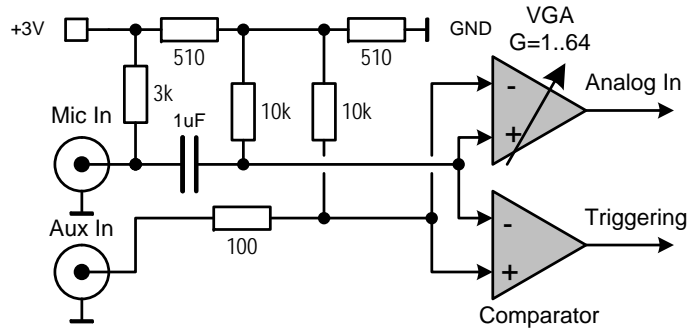

Figure 6: Internal circuit connections for Aux In and Mic In inputs, resulting in *Analog In* and *Triggering* signals used in SWF/SWL and FM/PhM modes
Signals from Aux In and Mic In inputs are fed to the variable gain amplifier (VGA) and comparator, forming accordingly *Analog In*, used as modulating signal, and Triggering – for synchronous run in Sweep Frequency and Sweep Level modes, see figure 6.
i Figure 6 shows the internal circuit connections for the Aux In and Mic In inputs
-  – (External) *Analog In* signal, formed by the Aux In or Mic In inputs (see figure 6), is used as a modulating signal in FM or PhM modes;